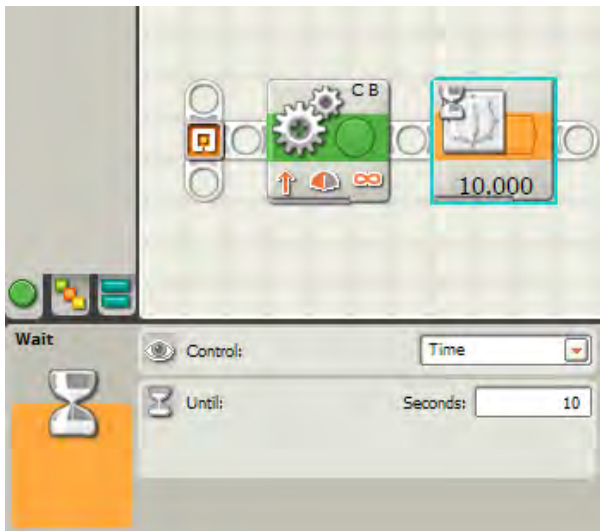
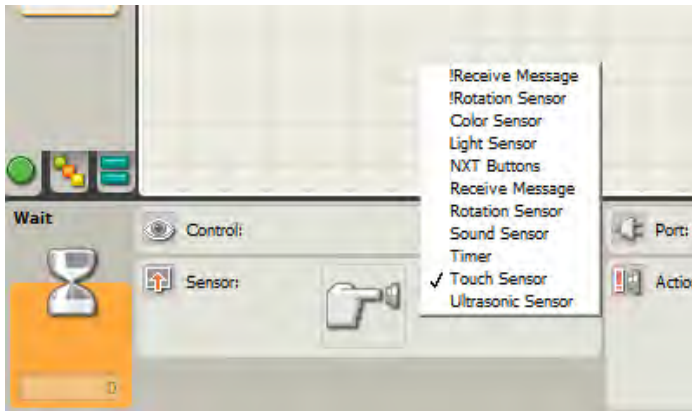

Figure 10-3. The TIME WAIT block and configuration panel
Figure 10-4. The options available to you in the Sensor section drop-down menu
Let me start with the easiest to configure—the TIME WAIT block. Figure 10-3 shows the TIME WAIT block added and its configuration panel.
Figure 10-3 shows that I've configured the TIME WAIT block for ten seconds. Go ahead and save the program, upload it to your bot, and then run it. What happens?
To get started, let me give you a shortcut for changing the type of the WAIT block. Go back to your original program with the MOVE block and the TIME WAIT block (shown in Figure 10-3). Click the TIME WAIT block to access the configuration panel. Click the Control section's drop-down menu, and choose Sensor instead of Time. When you change to Sensor, you now have a new configuration panel section (called Sensor) with another drop-down menu. Click the drop-down menu, and take a look at your options (shown in Figure 10-4).
■ **Note** You may not see all the options displayed in Figure 10-4 listed in the drop-down menu on your screen. Owners of the 1.0 version of the software will have a slightly different list, and if you have not installed the Legacy Blocks (see Chapter 9), these will also not be listed.